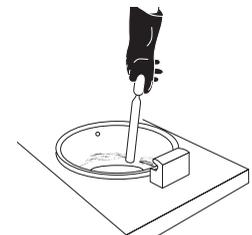

FIGURE 15
10. **Cleaning After Each Round** - scrape crust line from pot with spatula (supplied) (Figure 15). Brush heater coils on the front and back side with the white teflon brush (supplied). Wipe excess moisture off of fryer lid with a dry towel.
2. **Scrape Crust Line** from cookpot with spatula and brush heater coils (Figure 15).